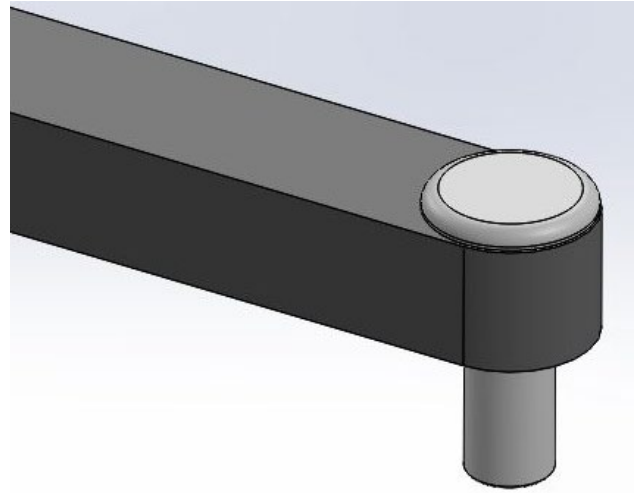

Fig. 2
- 5 Install the pivot shaft pin into the arm, so that the pin hangs out the bottom of the arm. (Fig. 2)